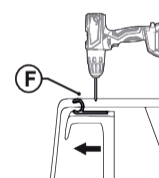

Figure vw2
- Drill 5 holes (4mm drill bit) evenly spaced through the aluminium rope track (F) and into the tub. See **figure vw2**. NOTE: First hole at each end to be 100mm distance in..